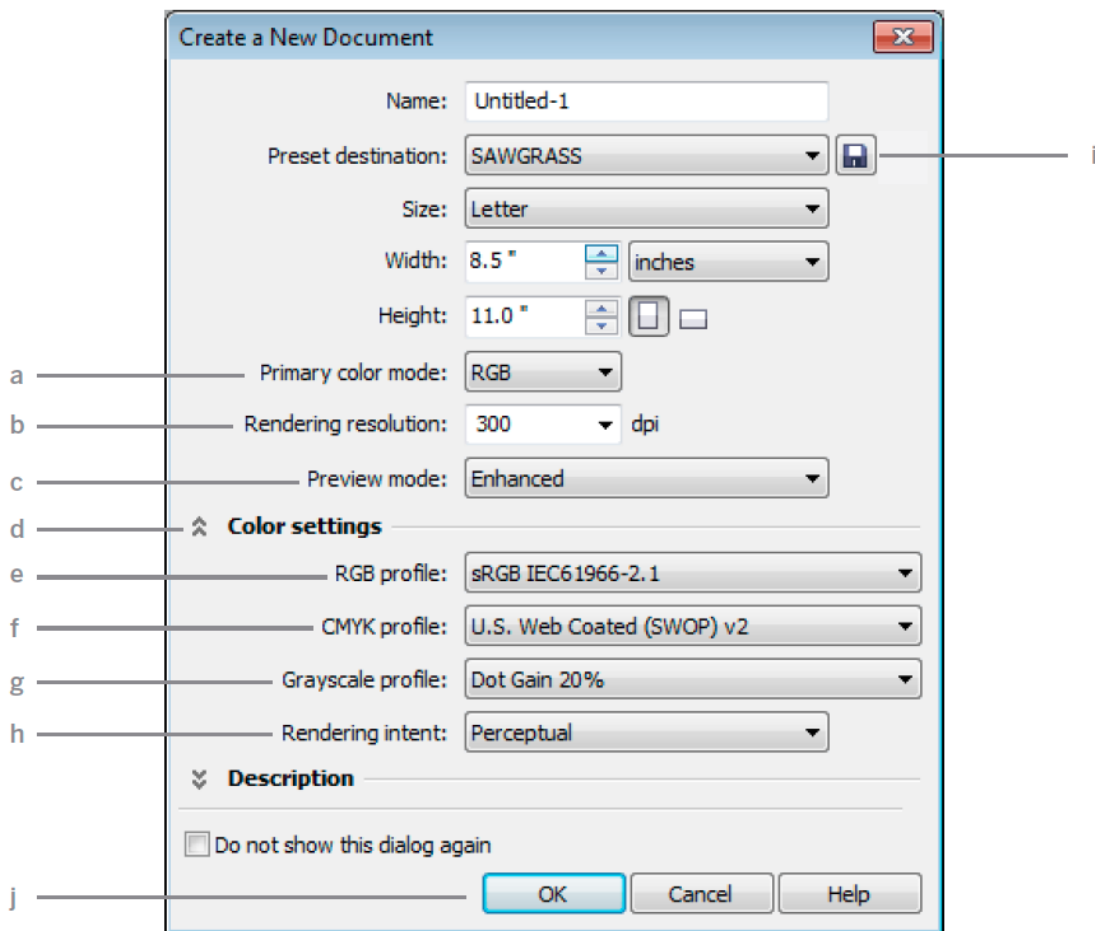

FIGURE 2
2. In the **Create a New Document** window match those shown below. See Figure 2.